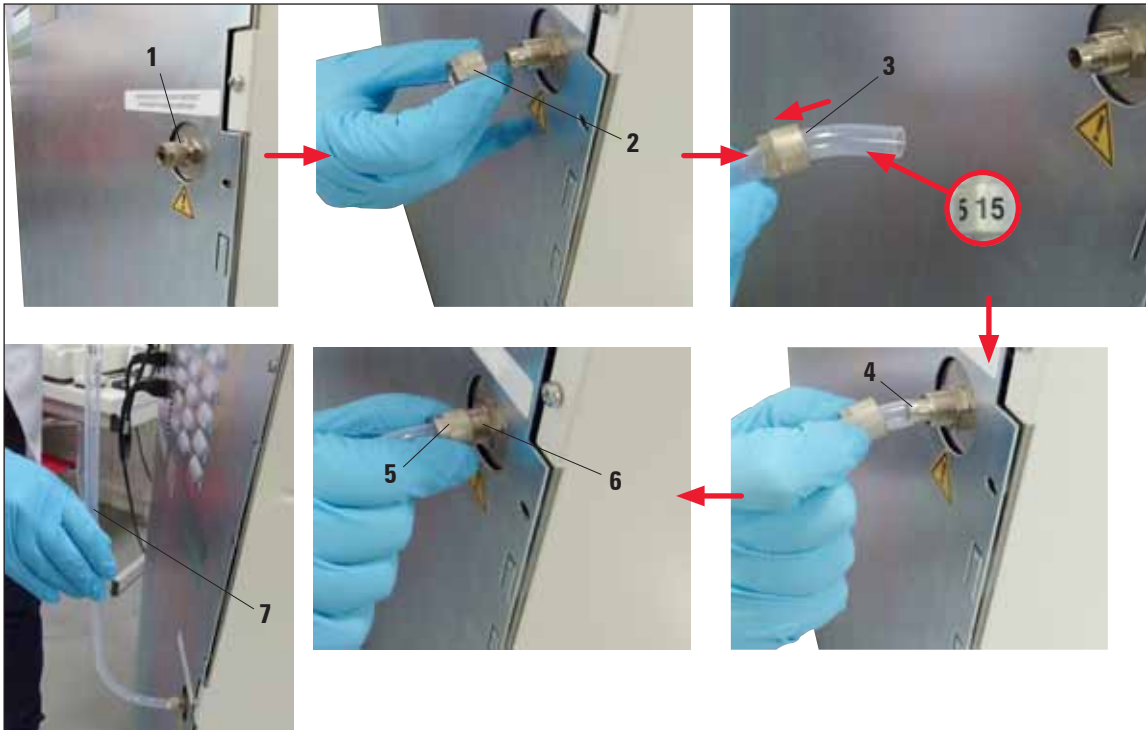

Fig. 90
The exhaust air connection (Fig. 90, 1) is located on the back of the instrument.
1. Unscrew the nut (Fig. 90, 2) from the connection (Fig. 90, 1) and push it onto the angled end of the hose marked "15" (Fig. 90, 3).
2. Push the angled end of the hose marked "15" onto the nipple of the connection as far as possible (Fig. 90, 4).
3. Screw the nut (Fig. 90, 5) firmly onto the thread of the connection to secure the exhaust hose (Fig. 90, 6).
4. Turn the exhaust hose into an upright position (Fig. 90, 7) and connect the hose marked "20" to the external exhaust air.